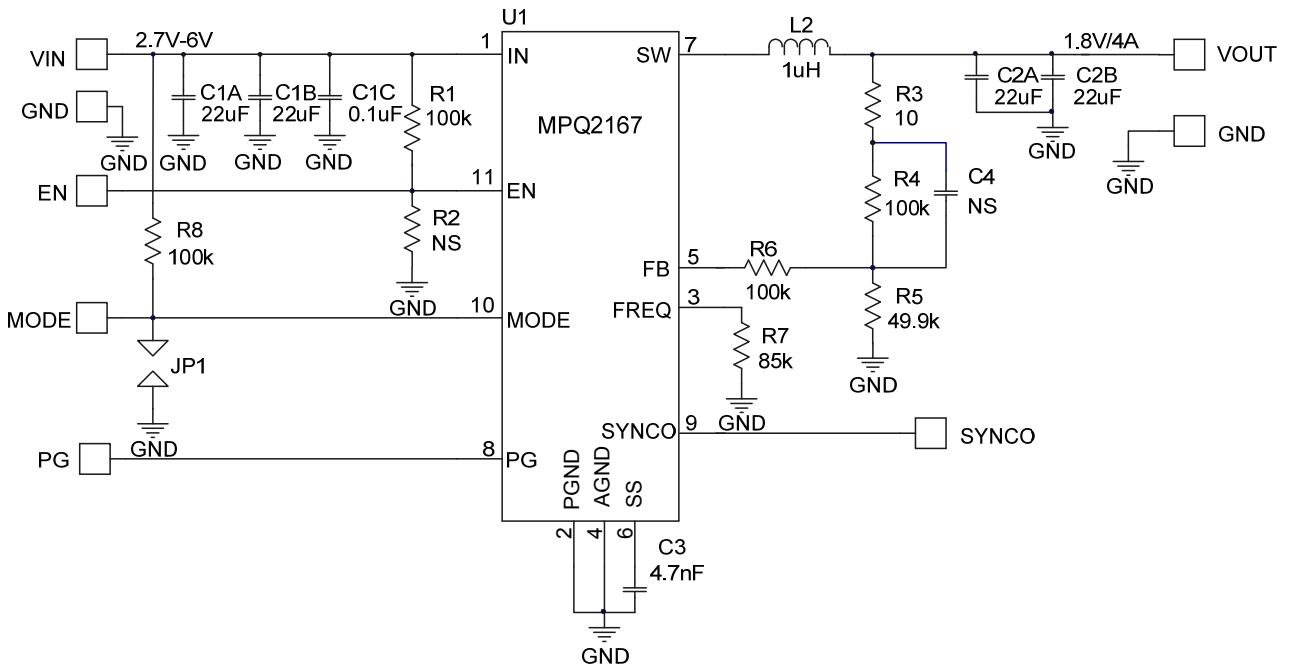

Figure 5: $V_{out}=1.8V$, $I_{out}=4A$ Application Circuit
- 7) The recommended PCB layout is based on Figure 5.